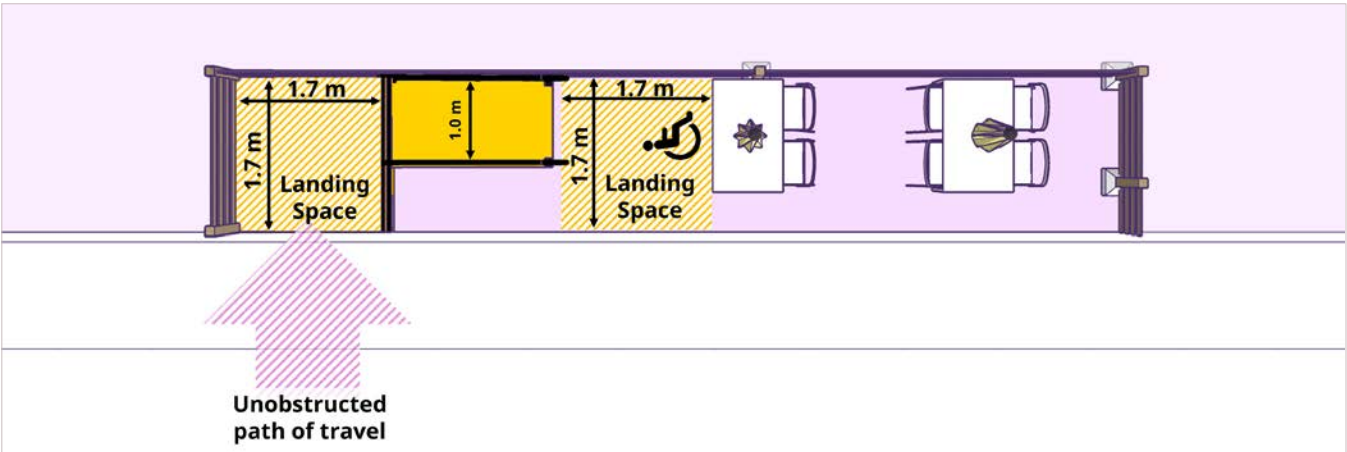

Figure 21: Ramp (Plan view)
- b. The landing space at the top of the ramp must be at least **1.7 m x 1.7 m** with a minimum entry width of **1.6 m** from the sidewalk (see Figure 21).
- c. The minimum width of the ramp is **1.0 m** (inclusive of handrails on each side) (see Figure 21). Handrails shall not project more than **100 mm** into the width of the ramp from each side.
- d. The landing space at the bottom of the ramp must also be at least **1.7 m x 1.7 m**. (see Figure 21).